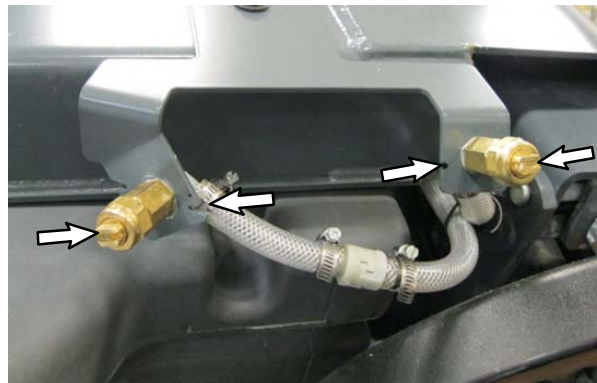

FIG. 11 - Left Spray Nozzle Assembly
70. Align the notches in the spray nozzles (46) with the notches in the left dual nozzle bracket (41) and tighten the cap fittings (47). (Fig. 11)